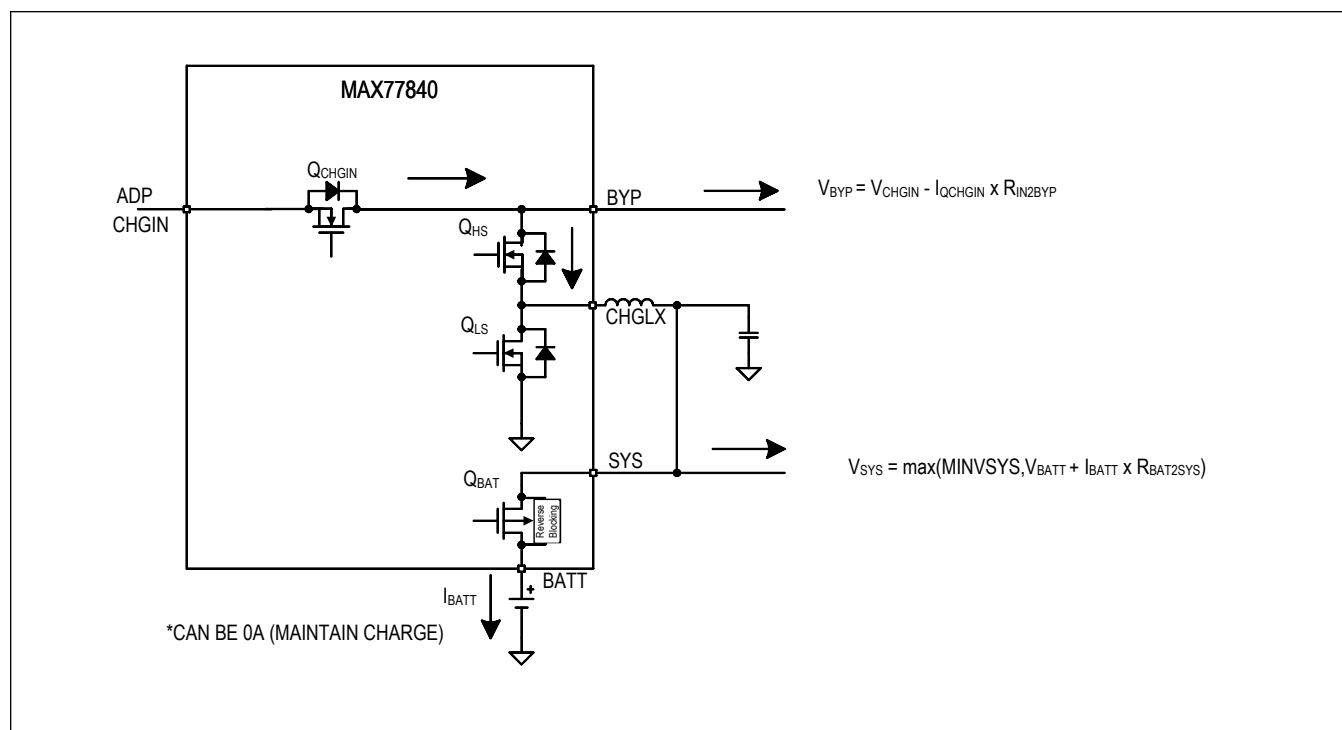

Figure 8. Charge-Buck
6. CHARGE-BUCK, MODE = 0x0D: The adapter is detected within the input voltage operating range ( $Q_{CHGIN} = \text{on}$ ). Battery is connected in charge mode ( $Q_{BAT} = \text{on}$ ) and charger is operating in buck mode, see Figure 8.